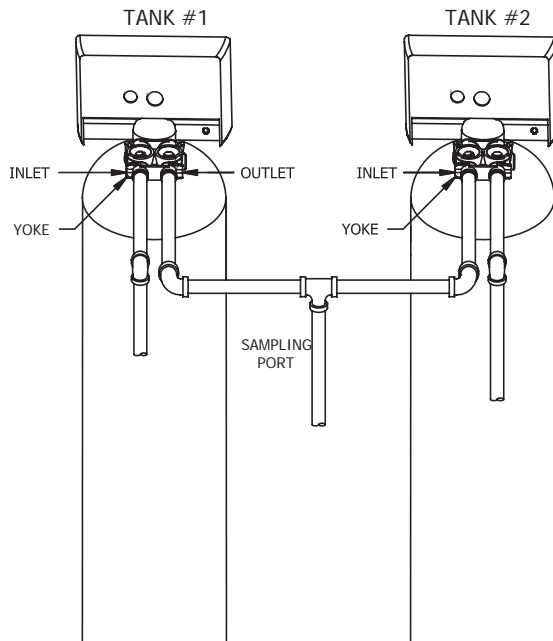

Figure 6
- Connect the check valve outlet to the aeration tank inlet (see Figure 6).
- Connect the aeration tank outlet to the filter tank inlet (see Figure 6). Use 1" diameter pipe between the aeration tank and filter tank.
- Connect the filter tank outlet to the house plumbing (see Figure 6).